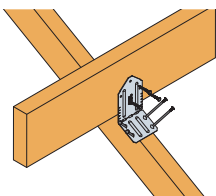

Fig 1: VTCR - Nailing positions
- Position the VTCR onto the supporting truss and install the 3.35x65mm nail at an angle of 45° through the dome nail holes. (Fig 1)
- Bend the upper flange of the VTCR to the required angle; position the valley truss against this leg and install the 3.75x30mm nail into the bottom chord of the valley truss (Fig 1)